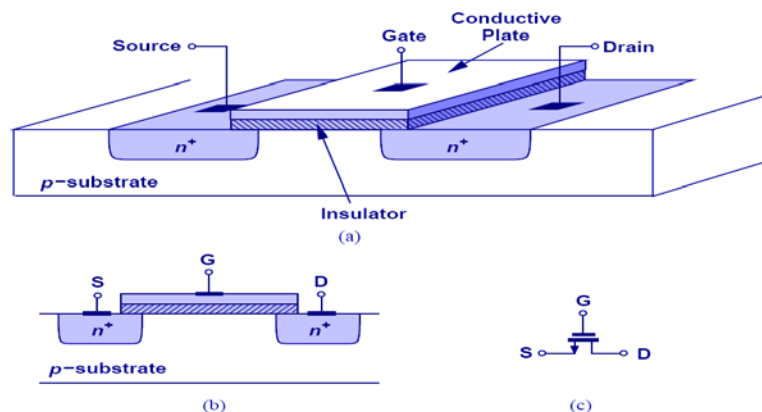

Figure : 2
The MOSFET is a four terminal device with source(S), gate (G), drain (D) and body (B) terminals as shown in Figure 2. The MOSFET is very far the most common transistor and can be used in both analog and digital circuits. This device is symmetric, so either of the n+ regions can be source or drain.